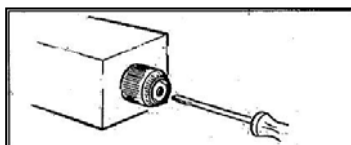

Fig.3.4
- With a turn screw press the pin on the middle of the electro-valves (See Fig. 3.4) in order to manually unlock the electro-valves which could be locked after a long period of inactivity.